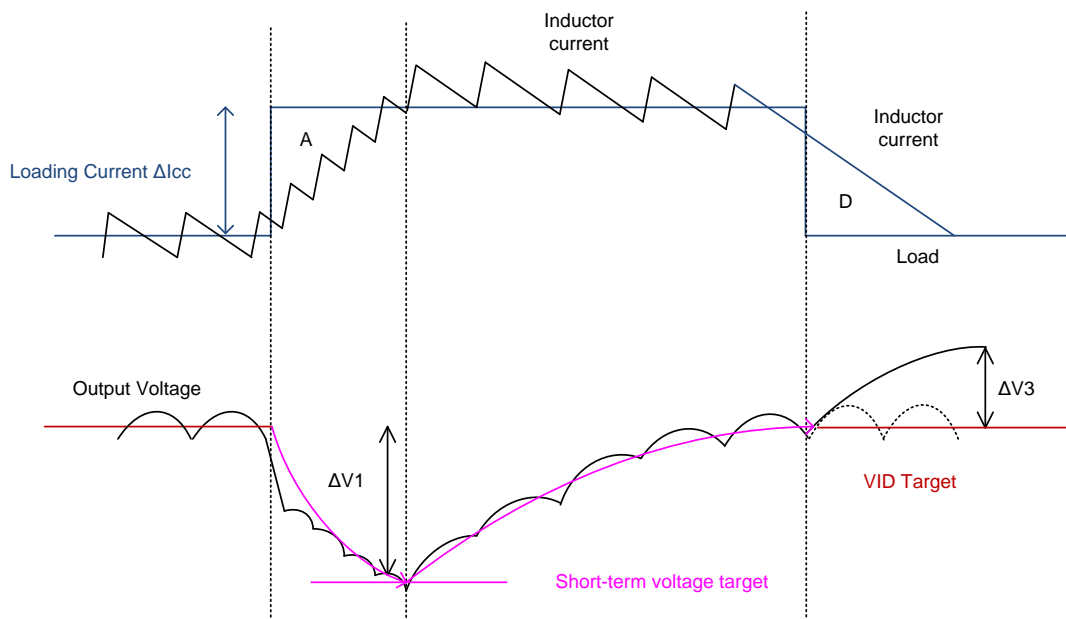

Figure 9. Zero Loadline with AC-droop Control
Figure 9 shows the condition with AC-droop control. While loading occurs, controller temporarily changes VID target to short-term voltage target. Short-term voltage target is related to transient loading current ΔI_{CC} and can be represented as the following :
where the V_{CS_SUM} is the sum of current sensing signal from DCR sensing or SPS current sensing. For DCR sensing, the $V_{CS_SUM} = V_{CS_SUM} - V_{CS_NSUM} = I_{OUT_SUM} \times DCR/N$. The current gain (AI) can be set by Pin Setting of AI Gain. Users can adjust AI gain by I²C register 0x41[3:2] to set desired short term voltage target. The short-term voltage target reverts to VID target slowly after approximately 100 μ s. The short-term voltage target can help inductor current not to exceed loading current too much and then the ring back can be suppressed. Referring to Figure 9, the overshoot